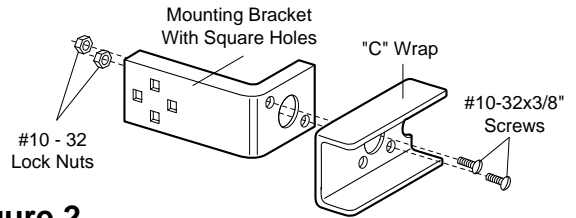

Figure 2
Figures 2, 3 and 4 show recommended assembly of bracket(s) and "C" wrap based on the wall installation of the sensors on each side of the garage door as shown on page 17, or on the garage door tracks themselves.
- Fasten the "C" wraps to the mounting brackets having square holes, using the hardware shown in Figure 2.